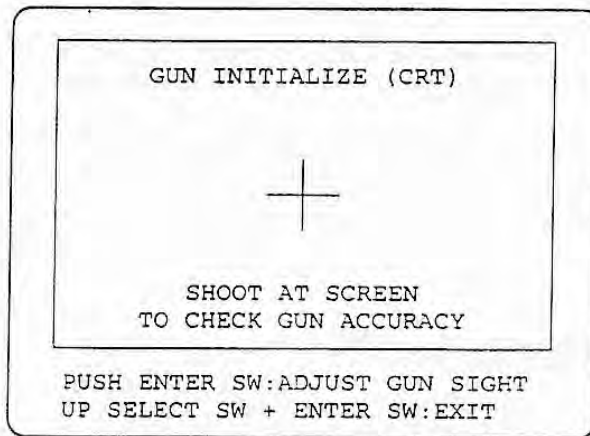
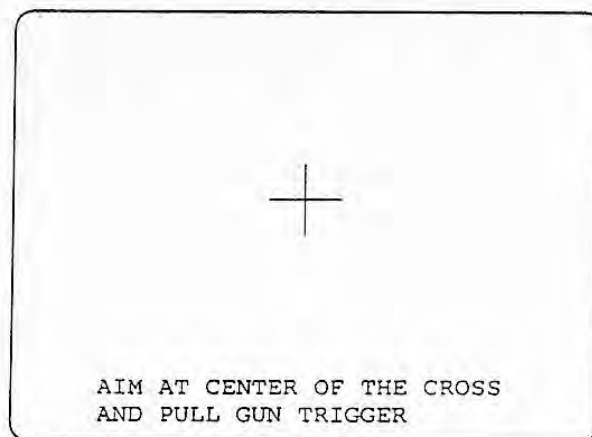

Fig. 2-1 GUN INITIALIZE (CRT) screen 1
Fig. 2-2 GUN INITIALIZE (CRT) screen 2
This function sets the gun aiming (Fig. 2-1).
- 1 The screen indicated in Fig. 2-1 allows you to check if the gun has the correct aim. Shoot the gun at the screen and the screen will display bullet impact where a bullet has reached. Check if the bullet impact is displayed at the point at which you aimed.
- 2 While in the screen indicated in Fig. 2-1, press the enter switch (or step on the pedal) to go to the screen illustrated in Fig. 2-2.
- 4 While on the screen indicated in Fig. 2-2, aim the gun at the center of the cross (+) and shoot. This will initialize the gun aiming. After shooting, it will go back to the screen indicated in Fig. 2-1.
- 5 While on the screen indicated in Fig. 2-1, check if you can shoot properly at every point and corner inside the frame. If the gun aiming is not good, press the enter switch (or step on the pedal) to go back to the screen indicated in Fig. 2-2. Then aim the gun again at the center of the cross and shoot to adjust the aiming again.